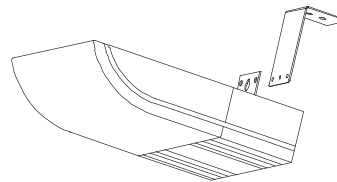

Fig.3
4. Install the brackets at distance from each other, securing them using a chain or fasteners (fig. 3).
5. Suspend the heater on the brackets according to Fig. 3, first securing on edge, then another. Make sure that screws are tightened firmly.